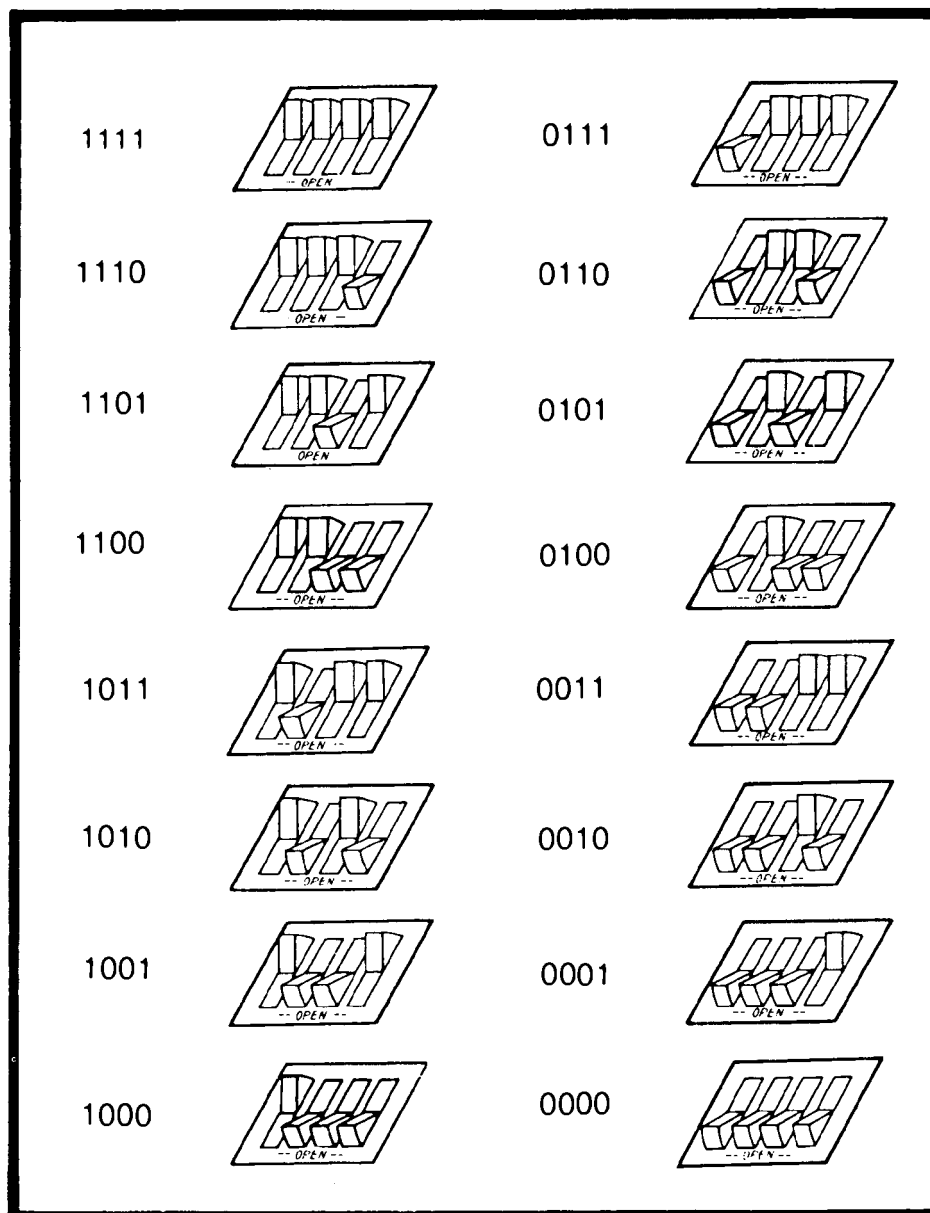

Figure 2-1. Examples of Switch Settings
4. With a pencil or your fingers, set the switches to the positions suggested for your system in the installation program. See figure 2-1.